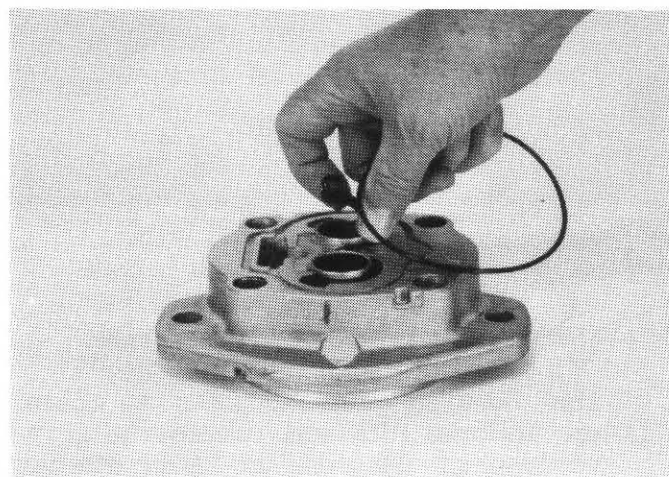

FIG. 2
5. After the flange plate has been freed from the studs, slide it off the shafts and carefully remove and lay aside the plate o-ring, pressure balance o-ring, and the nylon back-up strip. Also remove the seal snap ring if one is used. Protect the internal pieces from contamination. (Fig. 2)